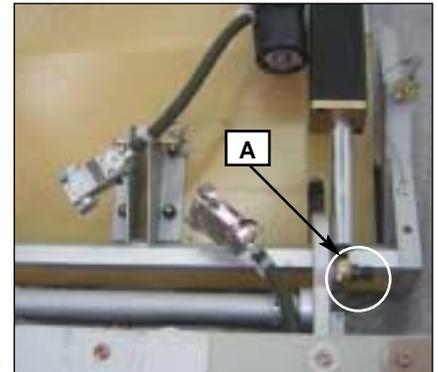

FIG. 304:
- (1) To remove legrest assy from seat pan assy, free actuator by removing bolt (A) (see fig. 304).